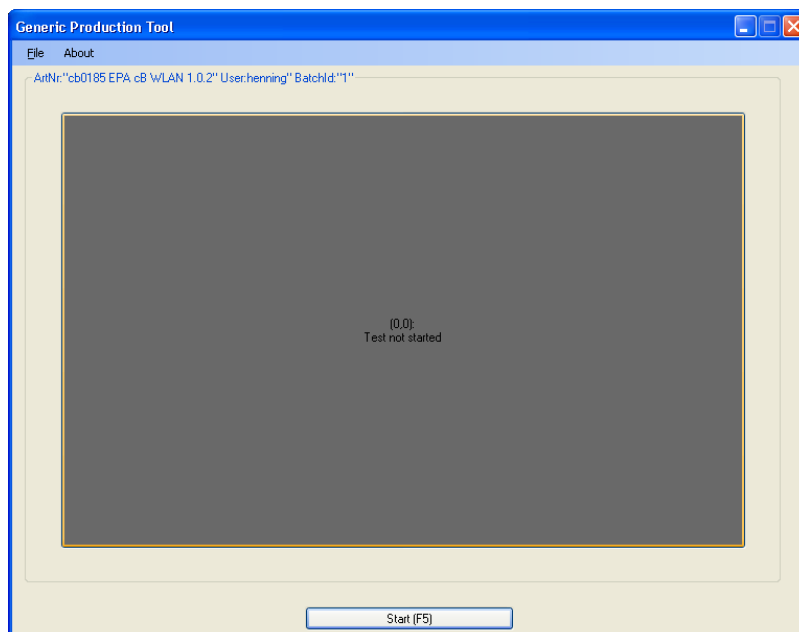

Figure 2 Main Production Window
3. After the parameters are confirmed you will see a window according to Figure 2. Now attach the "EPA Tester" connector to the cB-PWEPagi-02-0 and press the "Start" button.